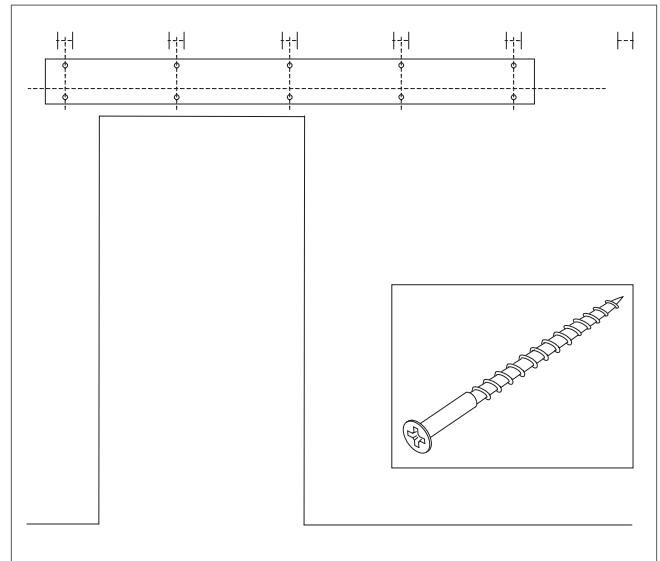

Figure 7
8. Align the line on the wall with the line made on the header in step 4. Ensure pilot holes align with wall studs (Figure 7).
9. Install header using 3" wood screws (F.) (Figure 7).